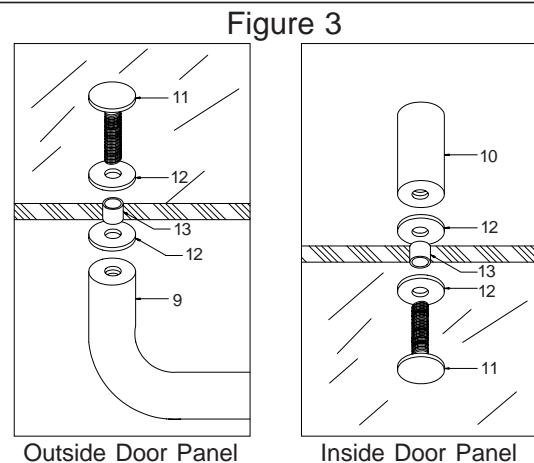

Figure 3
8. To install towel bar (9), place nylon towel bar insert sleeves (13) into holes in the glass (17). Next, hold the tubular towel bar (9) against the hole in the glass with the nylon towel bar/pull washer (12) between the glass and the towel bar. Place a nylon towel bar/pull washer on the towel bar/pull screw (11) and secure towel bar in place on both ends. Install the pull the same way the towel bar was installed. Use hole in fastener to tighten (See Figure 3).
10. Secure bumpers (4) in place with a 6-32 x 1/2" MS screw (5). **NOTE:** Glass panels close into the recessed portion of the bumpers. The recess is toward the inside of the tub on the showerhead jamb, and toward the outside on the other jamb. From inside of unit, drill #31 holes through header and into wall jamba, 11/16" from bottom of header. Secure header to wall jamba with two #6 x 3/8" SMS screws (14).